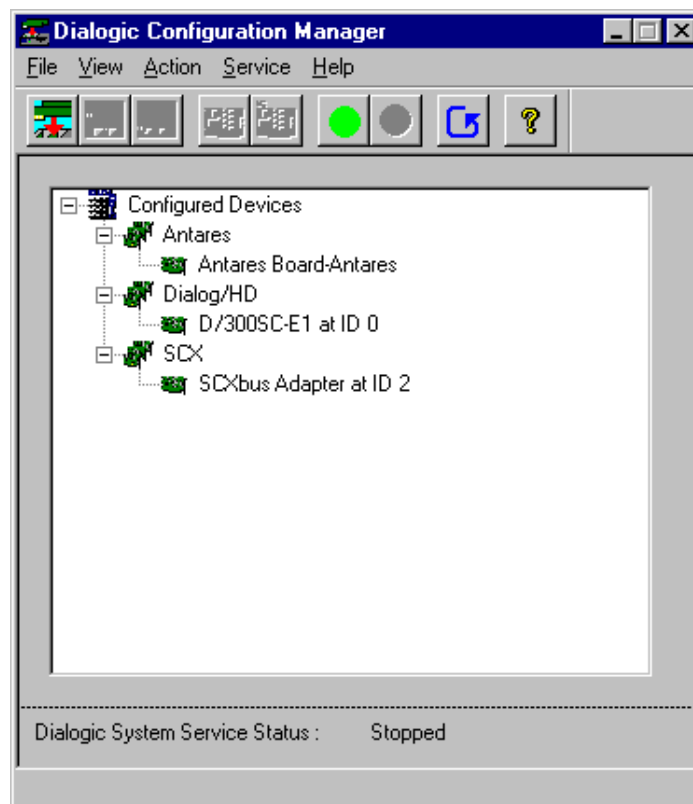

Figure 53. Dialogic Configuration Manager Window
24. The program now returns to the Dialogic Configuration Manager window (Figure 53).
28. Start the Dialogic Service by clicking on the **Green** button at the top of the screen (see *Figure 53*).
- Choose **Auto Detect Devices** from the action drop down menu in the Dialogic Configuration Manager (*Figure 53*).
Start the Dialogic Service by clicking the Green button in the Dialogic Configuration Manager window (see *Figure 53. Dialogic Configuration Manager Window*).